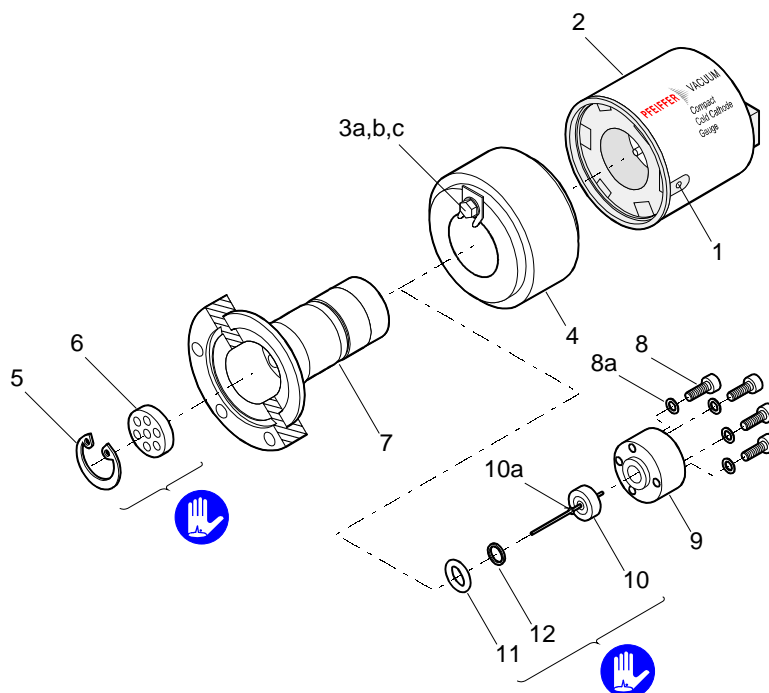

Figure 3
- Unfasten the hexagon socket set screw (1) on the side of the electronics unit (2) (→ Figure 3).
- a) Remove the old ignition aid (10a) with tweezers (→ Figure 3).
- a) Insert the FPM seal (11) with the support ring (12) centered into the measuring chamber. The sealing surface, seal, and ceramic part must be clean (→ Figure 3).
- b) Carefully insert the anode (10) incl. ignition aid (10a) into the measuring chamber.
- c) Carefully place the pressure piece (9) on the measuring chamber and tighten it **uniformly** with the four (or two) hexagon socket screws (8) incl. lock washers (8a) until the stop position is reached.
- f) Slide the polarity insert (6) into the measuring chamber up to the mechanical stop.
- g) Place the circlip (5) snugly fitting on the polarity insert.